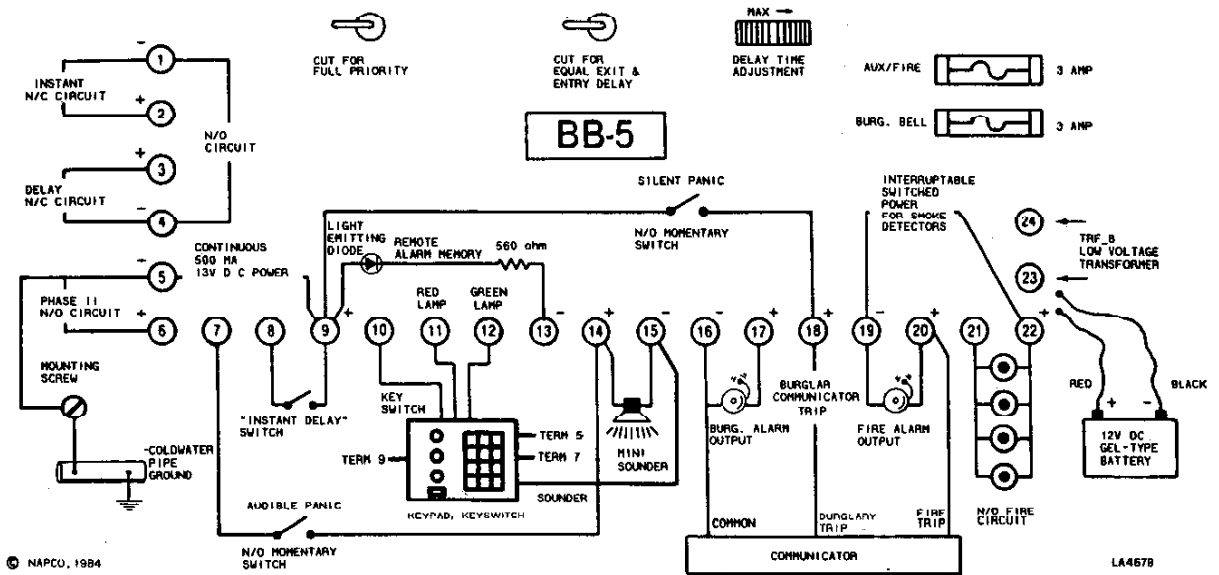

FIGURE 2: WIRING DIAGRAM
**WIRING INFORMATION (SEE FIGURE 2)**
To reduce the possibility of causing an unnecessary alarm, cut the red "priority" jumper. (See Figure 2: Wiring Diagram.) With this jumper cut, the control center will not arm when either the normally closed instant or delay circuit is open, or if the normally open instant burglary loop has a closure.